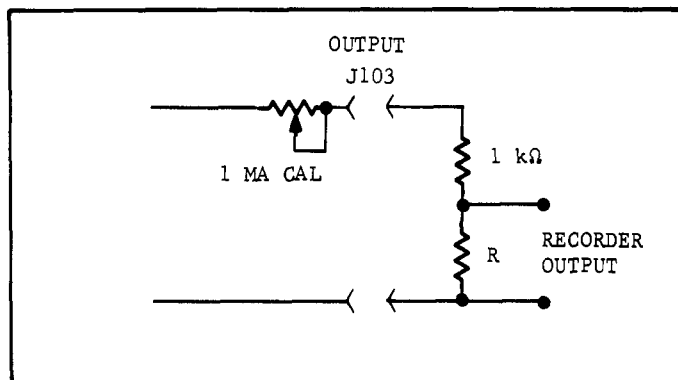

FIGURE 3. Divider Circuits Across Picoammeter Output for Driving 50 and 100-Millivolt Recorders.
e. For servo rebalance recorders, use a divider across the Picoammeter OUTPUT Receptacle. See Figure 3. Set the OUTPUT Switch to 1 mA. Use the 1 mA CAL Control to trim the output for full-scale recorder deflections. Operation is the same as for current outputs.